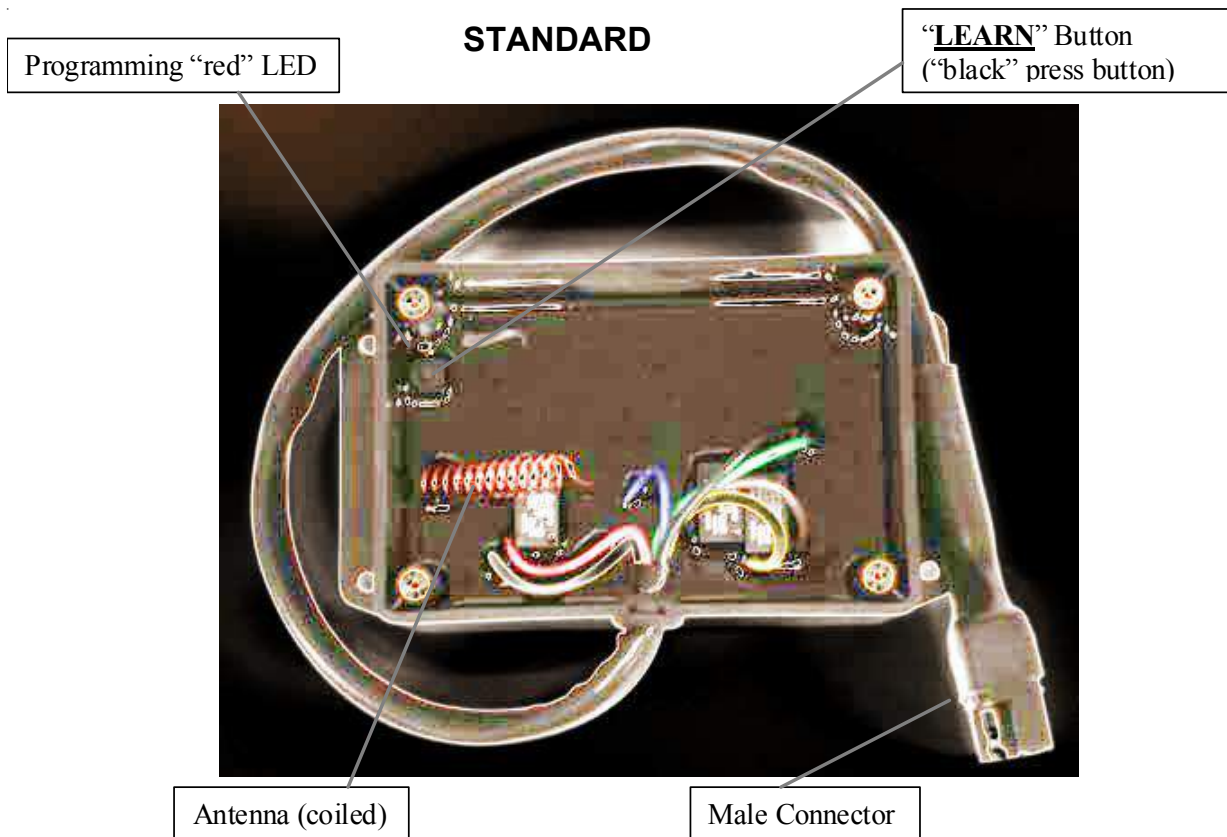

Fig. 3: Base Unit layout (Figure shown without Base Unit Cover)
1. Remove (4) screws and cover on Base Unit.
2. Power-up the Base Unit. Connect a 12V power source to the spreader 12V battery terminals and plug the engine wire harness to the Base Unit wire harness (see Male Connector in Fig. 3). **DO NOT DISCONNECT THE BATTERY TERMINALS** from the 12V source when engine is running.
5. On the Base Unit (see Fig. 3) press the black "**LEARN**" button. The "red" LED will start to blink (for approximately 15-17 seconds).
7. Verify the (5) functional buttons (Buttons #1, #3, #4, #5, & #6) on the Transmitter are working with the Spreader Unit by pressing each button, individually (the Base Unit "red" LED will flash when a Transmitter button is pressed). If Transmitter buttons are not working, repeat steps 3 – 8 or see the Trouble shooting directions.
8. When Transmitter buttons are functioning properly, re-assemble the Cover on the Base Unit with the (4) screws. Your Swenson Wireless Controller is now ready to use!